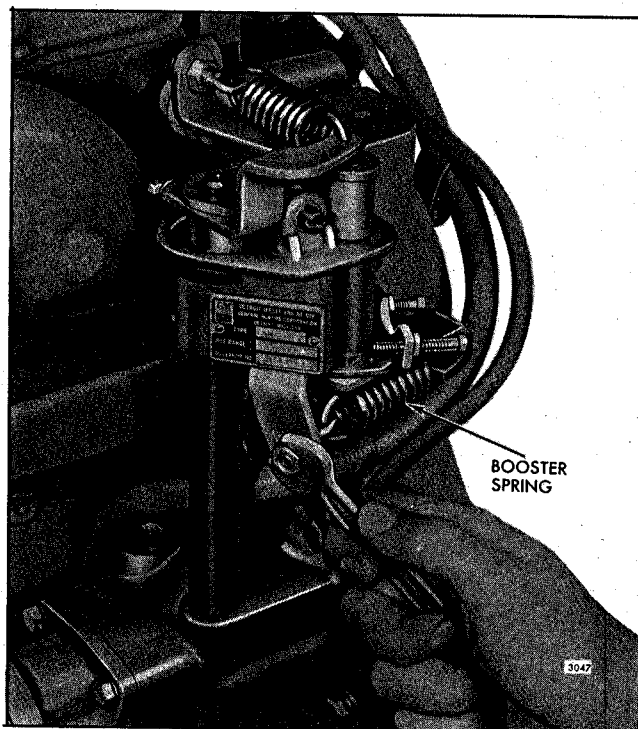

Fig. 8 - Adjusting Booster Spring
2. Reduce the tension on the booster spring, if not previously performed, to the minimum by backing off the outer lock nut (Fig. 8) until the end of the booster spring eye bolt is flush with the end of the nut.